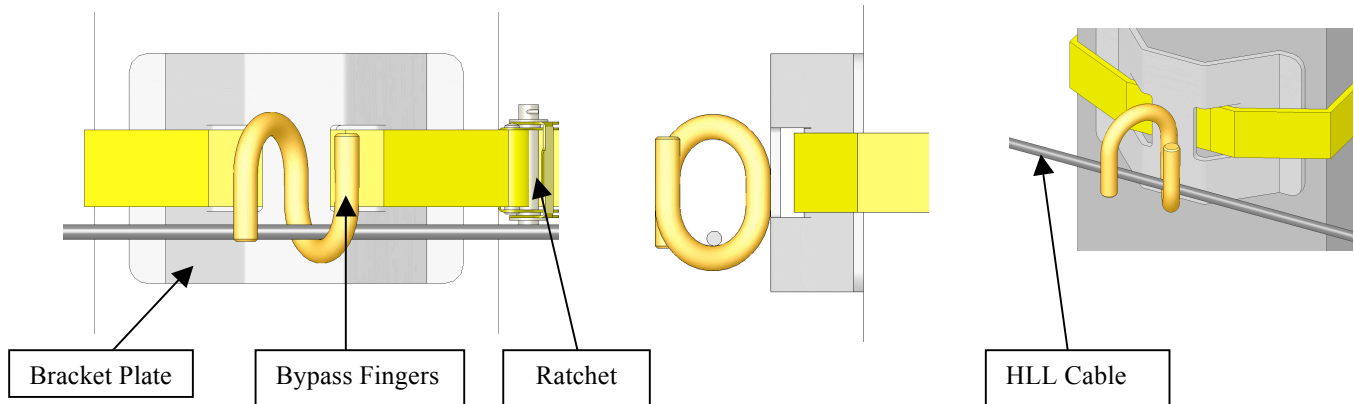

Figure 1
8. Slide bracket into proper position on column face so that the horizontal lifeline cable will pass through the fingers properly. Continue to tighten ratchet until no slack remains in the strap (see Fig. 1).